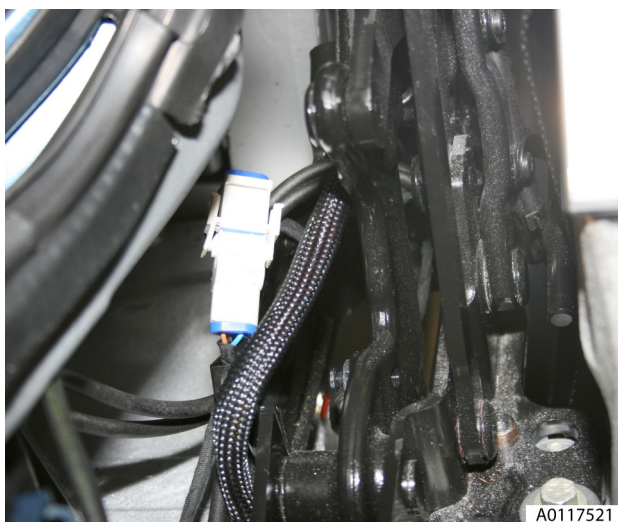

Fig. 3
9. Feed pipes through to tonneau area by carefully guiding through roof mechanism and release string (see Fig. 3).